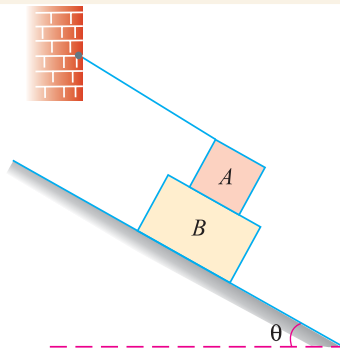

Fig. 8.25.
2. Two blocks *A* and *B* of weight 100 N and 300 N respectively are resting on a rough inclined plane as shown in Fig. 8.25.